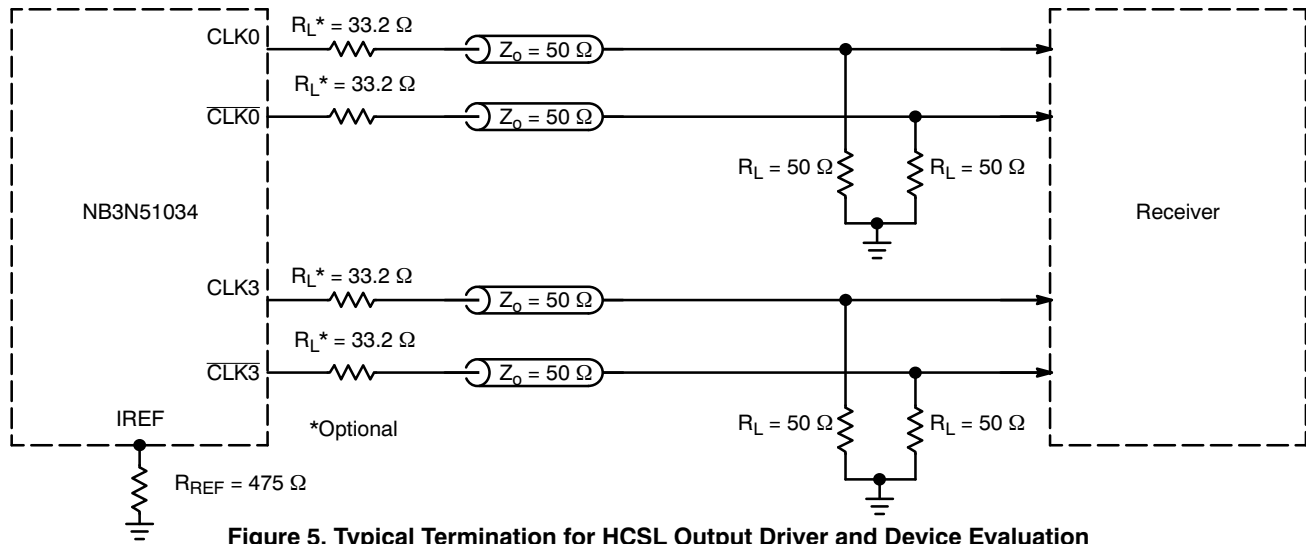

Figure 5. Typical Termination for HCSL Output Driver and Device Evaluation
- Measurement taken with outputs terminated with R_S = 33.2 Ω , R_L = 50 Ω , with test load capacitance of 2 pF and current biasing resistor set at 475 Ω . See Figure 5. Guaranteed by characterization.
5. Measurement taken from differential output on single-ended channel terminated with $R_S = 33.2 \Omega$, $R_L = 50 \Omega$, with test load capacitance of 2 pF and current biasing resistor set at 475 Ω . See Figure 5. Guaranteed by characterization.
19. Measurement taken from differential output on single-ended channel terminated with R_S = 33.2 Ω, R_L = 50 Ω, with test load capacitance of 2 pF and current biasing resistor set at 475 Ω. See Figure 5. This parameter is guaranteed by characterization. Not tested in production.